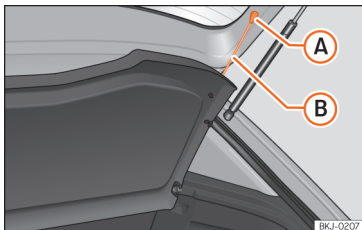

Fig. 136 In the boot: removing and installing the shelf.
- Detach the cord loops >>> Fig. 136 (B) from their hooks (A).
- Attach the securing straps >>> Fig. 136 (B) onto the rear lid.